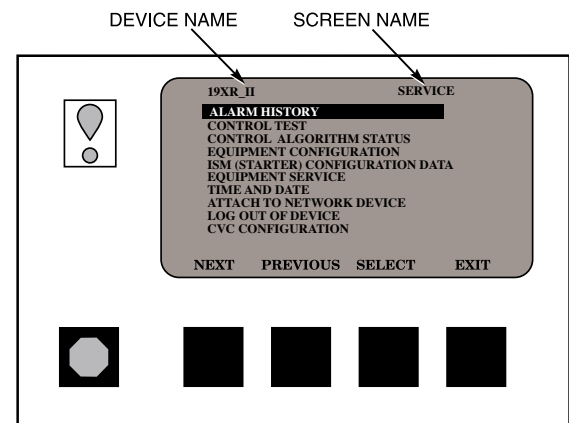

Fig. 15 — CVC Service Screen
- If a screen other than the default screen is displayed on the CVC, the name of that screen is in the upper right corner (Fig. 15).